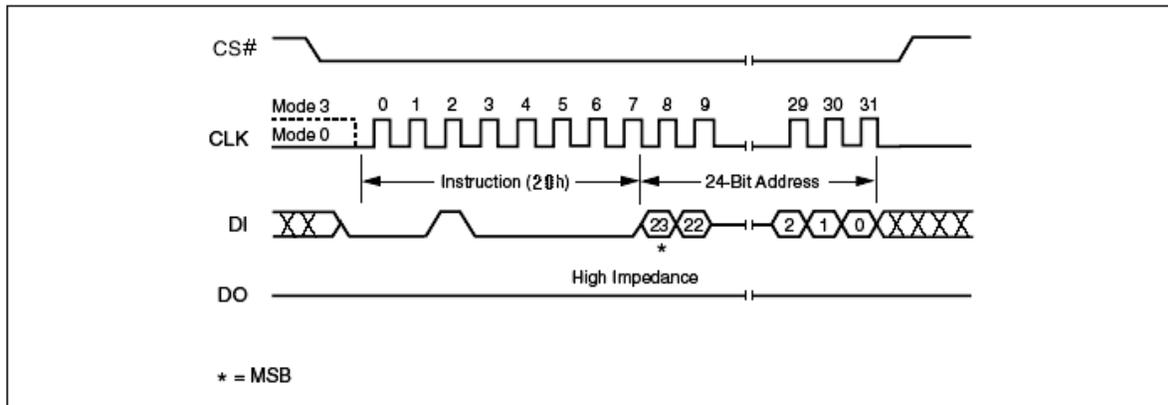

Figure 28. Sector Erase Instruction Sequence Diagram
The instruction sequence is shown in Figure 28. Chip Select (CS#) must be driven High after the eighth bit of the last address byte has been latched in, otherwise the Sector Erase (SE) instruction is not executed. As soon as Chip Select (CS#) is driven High, the self-timed Sector Erase cycle (whose duration is  $t_{SE}$ ) is initiated. While the Sector Erase cycle is in progress, the Status Register may be read to check the value of the Write In Progress (WIP) bit. The Write In Progress (WIP) bit is 1 during the self-timed Sector Erase cycle, and is 0 when it is completed. At some unspecified time before the cycle is completed, the Write Enable Latch (WEL) bit is reset.